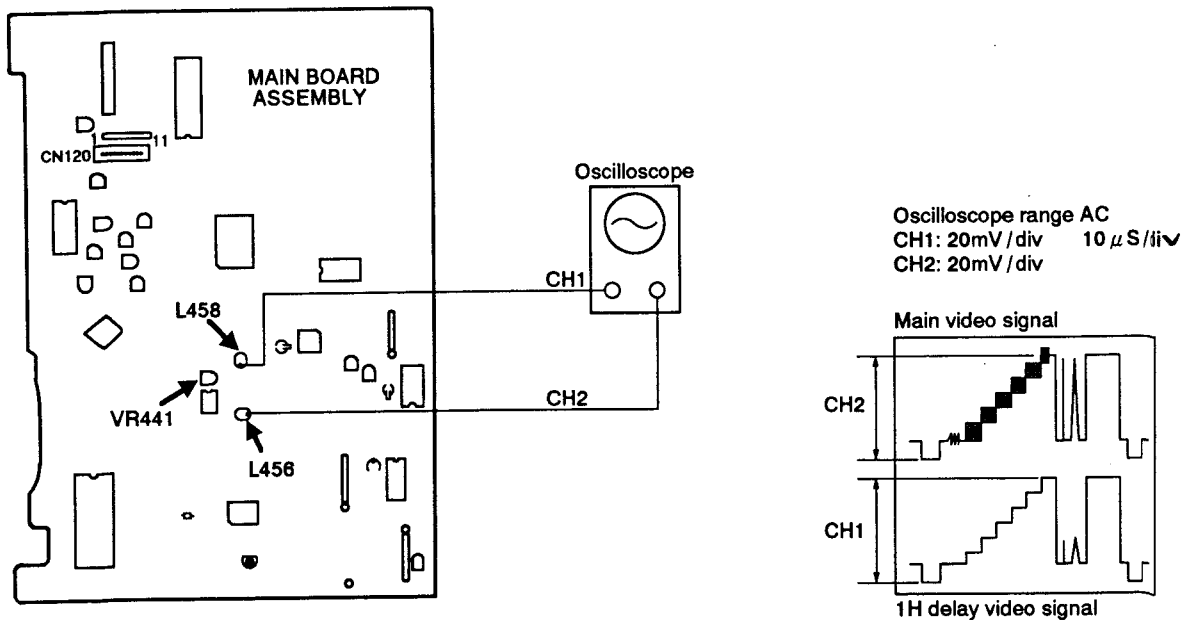

Fig. 18
3. Adjust VR441 so that the 1H delay video level (CH 1) becomes the same as the main line video level (CH 2). (See Fig. 18)